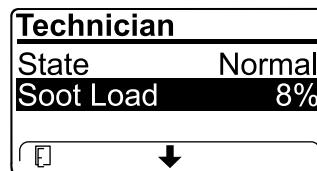

Figure 73
- View the soot load which is measured as the percentage of soot in the DPF (Figure 73); refer to the soot-load table.